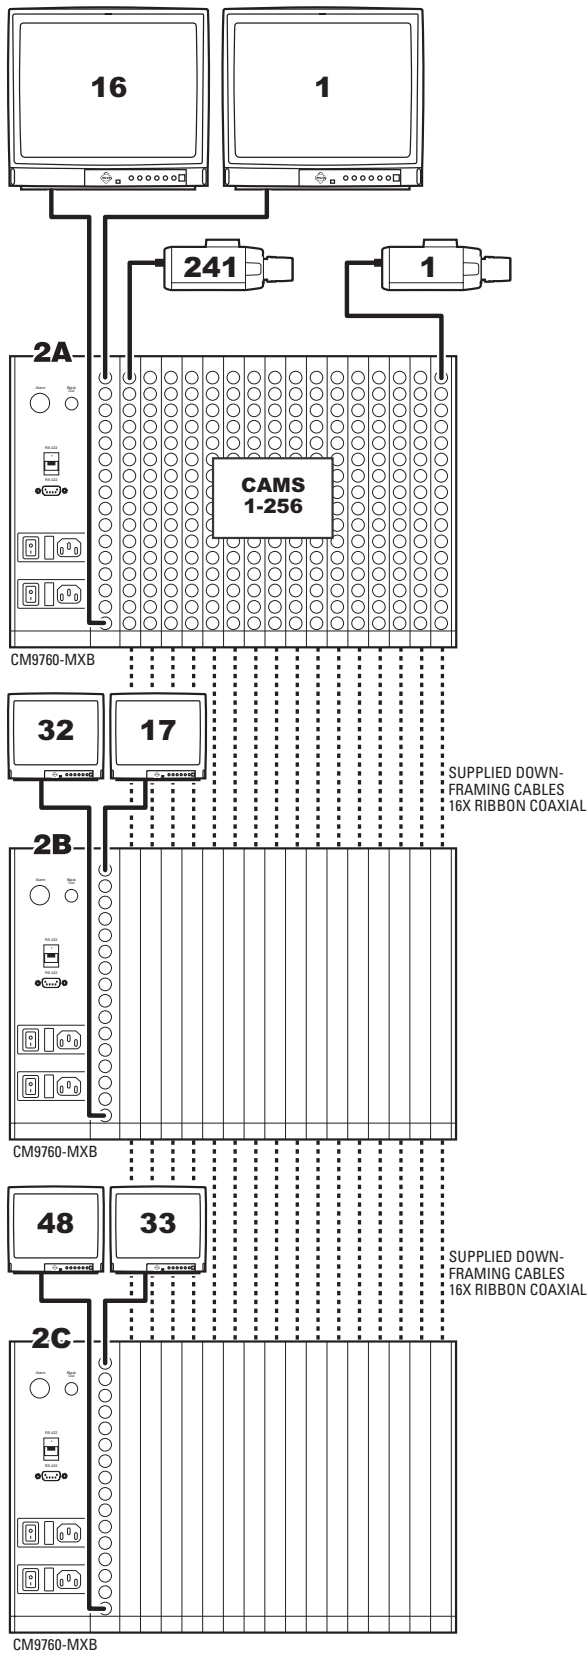
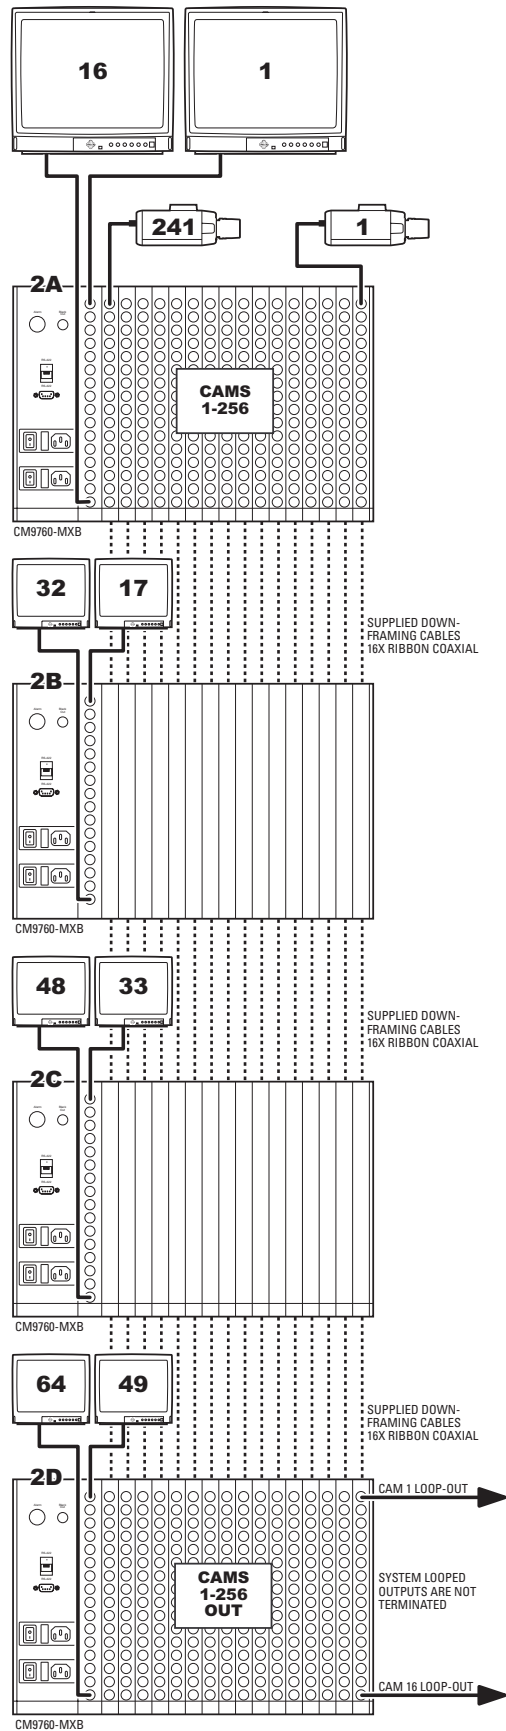

Figure 64. Downframing: 256 x 48 Configuration
Figure 67. Downframing: 256 x 64 Configuration, Looping
- 256 x 48 (refer to Figure 64)
- 256 x 64, looping (refer to Figure 67)
Figure 64 to Figure 67 illustrate downframe-only configurations.